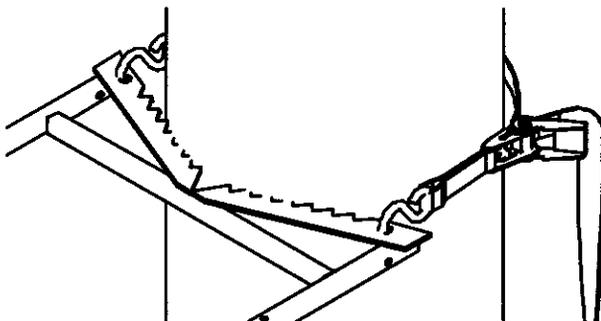

Figure 5a: Applies to RE607
- Standing on ladder step, lean toward tree with ratchet strap now in hand, hook "S" hook with long strap through hole provided on tree blade. Feed the long strap through the center (slot) of ratcheting mechanism and back around through tightening lever. **SEE FIGURES 5a/5b AND 6.**
Wrap entire ratchet assembly around tree and hook other "S" hook through opposite tree blade hole. Pull tail of long strap until most of the slack is taken out. Be sure entire strap is even and at the same level all around tree. "Ratchet" tight to tree, this will securely attach ladder to tree and prevent movement. **SEE FIGURES 5a, 5b, AND 7.**